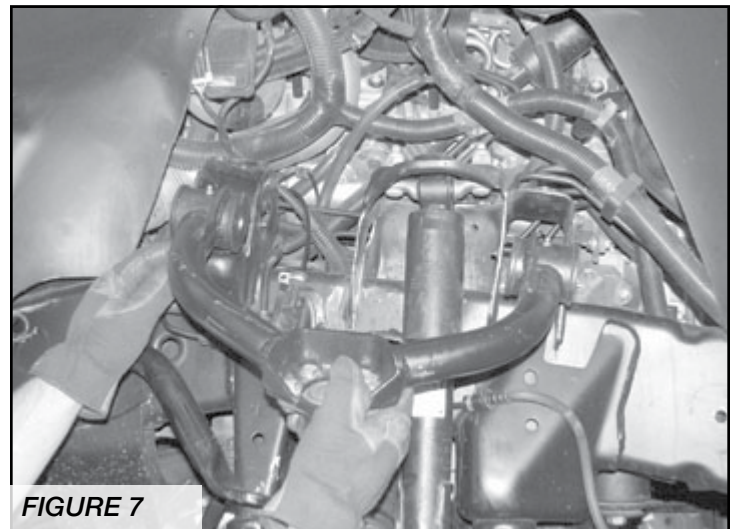

FIGURE 7
15. Install the new Fabtech upper control arm in the factory upper control arm pocket using factory hardware. **SEE FIGURE 7**